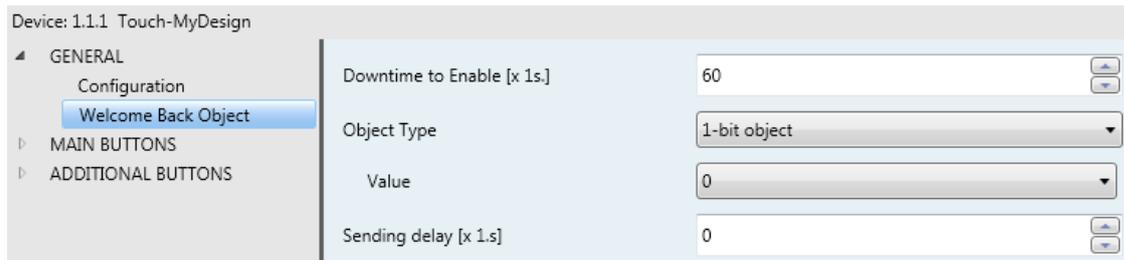

Figure 10 Welcome Back object (General)
• **Welcome Back object.** This function permits sending a certain value (binary or scene) to the KNX bus when the user performs a touch on any of the touch buttons after a standby period. This makes possible, for example, lighting up a room after several hours of darkness with only a random touch over the touch panel. If enabled, this function will make the “[General] Welcome Back object” object visible, as well as a new window (see Figure 10) from where it is possible to parameterize its behaviour.